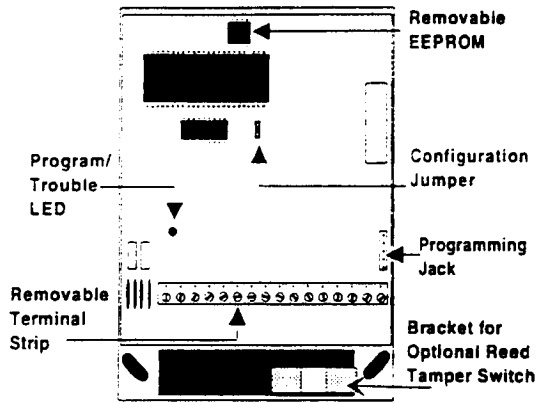

Figure 3. Features of the HOM Circuit Board
The following procedure explains how to install and wire the HOM to the SX-V or CareTaker Plus security system. See Figure 3.
The configuration jumper (see Figure 3) on the circuit board determines the mode of operation. Select program mode by having the jumper in place; select preset mode by removing the jumper from the jumper pins. (The HOM is shipped with the jumper installed; remove jumper for preset mode operation.)
- 2) Remove the configuration jumper. See Figure 3 for location.